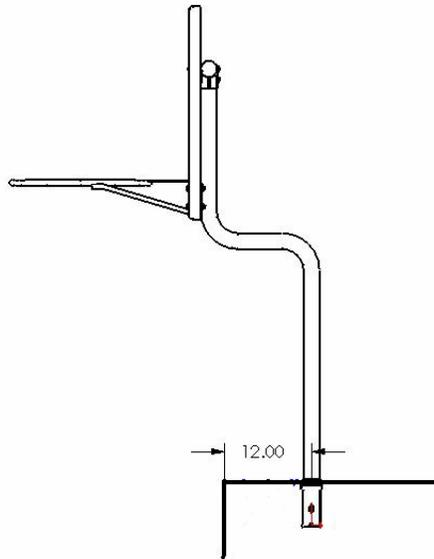

FIGURE 5
5. The Single Post Basketball units are to be anchored to the deck using a 6-inch deep AS-100D anchor socket or the AS-100P plastic anchor socket, with tightening bolt. Install the anchor in the pool deck 12 inches back from the pool's edge as shown in **FIGURE 5**. Properly bond the anchor socket using the attached bonding screw and the appropriate bonding wire per local codes. Allow concrete to cure before installing Single Post Basketball Unit.